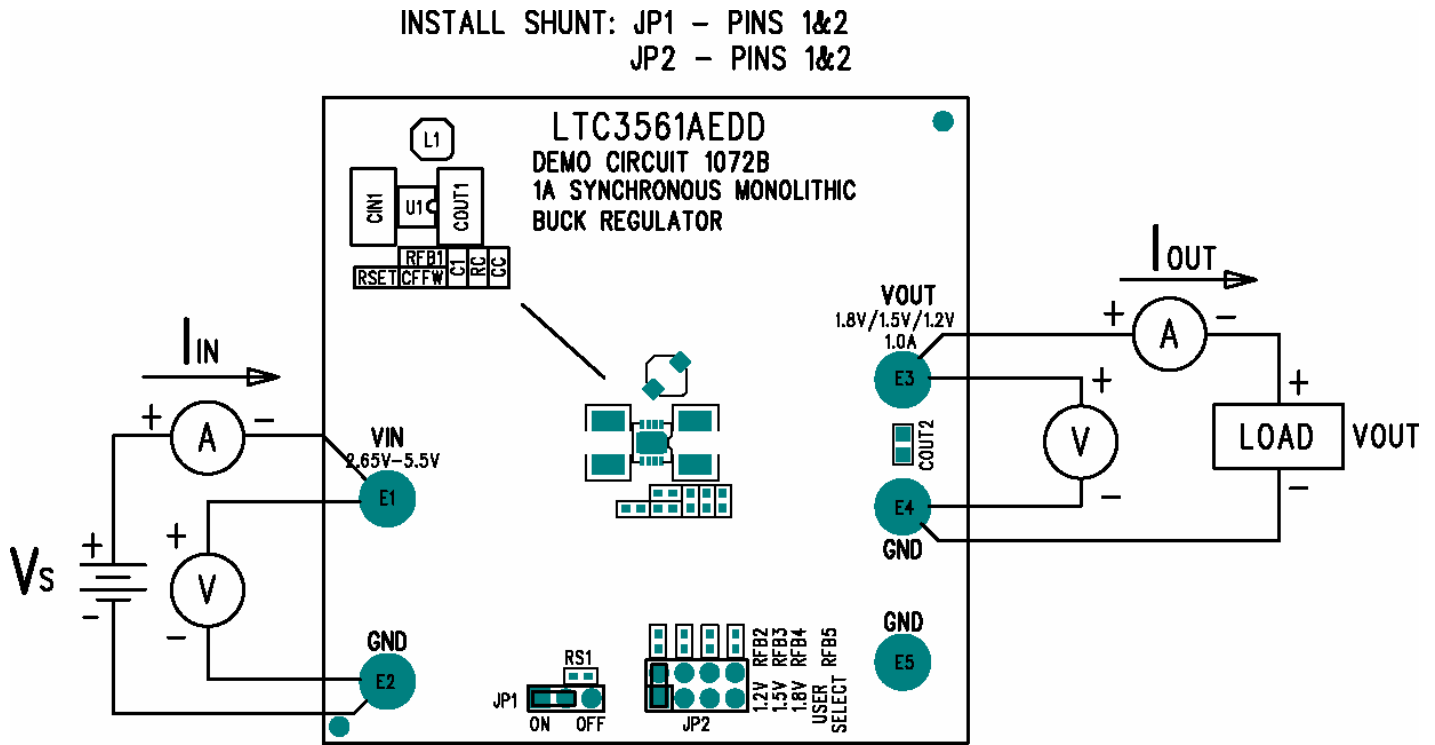

Figure 1. Proper Measurement Equipment Setup
Demonstration Circuit 1072B is easy to set up to evaluate the performance of the LTC3561A. For proper measurement equipment configuration, set up the circuit according to the diagram in **Figure 1**. Before proceeding to test, insert
1. With the DC1072B set up according to the proper measurement and equipment in **Figure 1**, apply 3.3V at Vin (Do not hot-plug Vin or increase Vin over the rated maximum supply voltage of 5.5V, or the part may be damaged.). Measure Vout; it should read 0V. If desired, one can measure the shutdown supply current at this point. The supply current will be approximately 10 uA, or less, in shutdown.